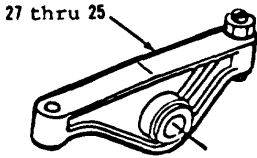

Figure 3-52.
- 20. Install items 27 thru 25 as an assembly (Figure 3-52).